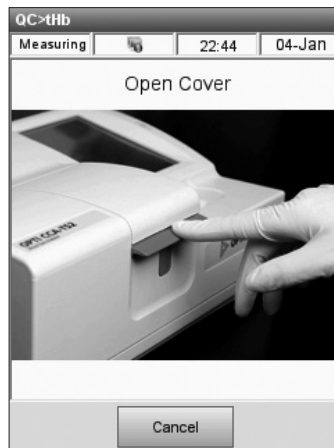

Fig. 2-18 Open Cover
- Open the SMC cover by pressing down on the center of the red latch (Fig. 2-18).